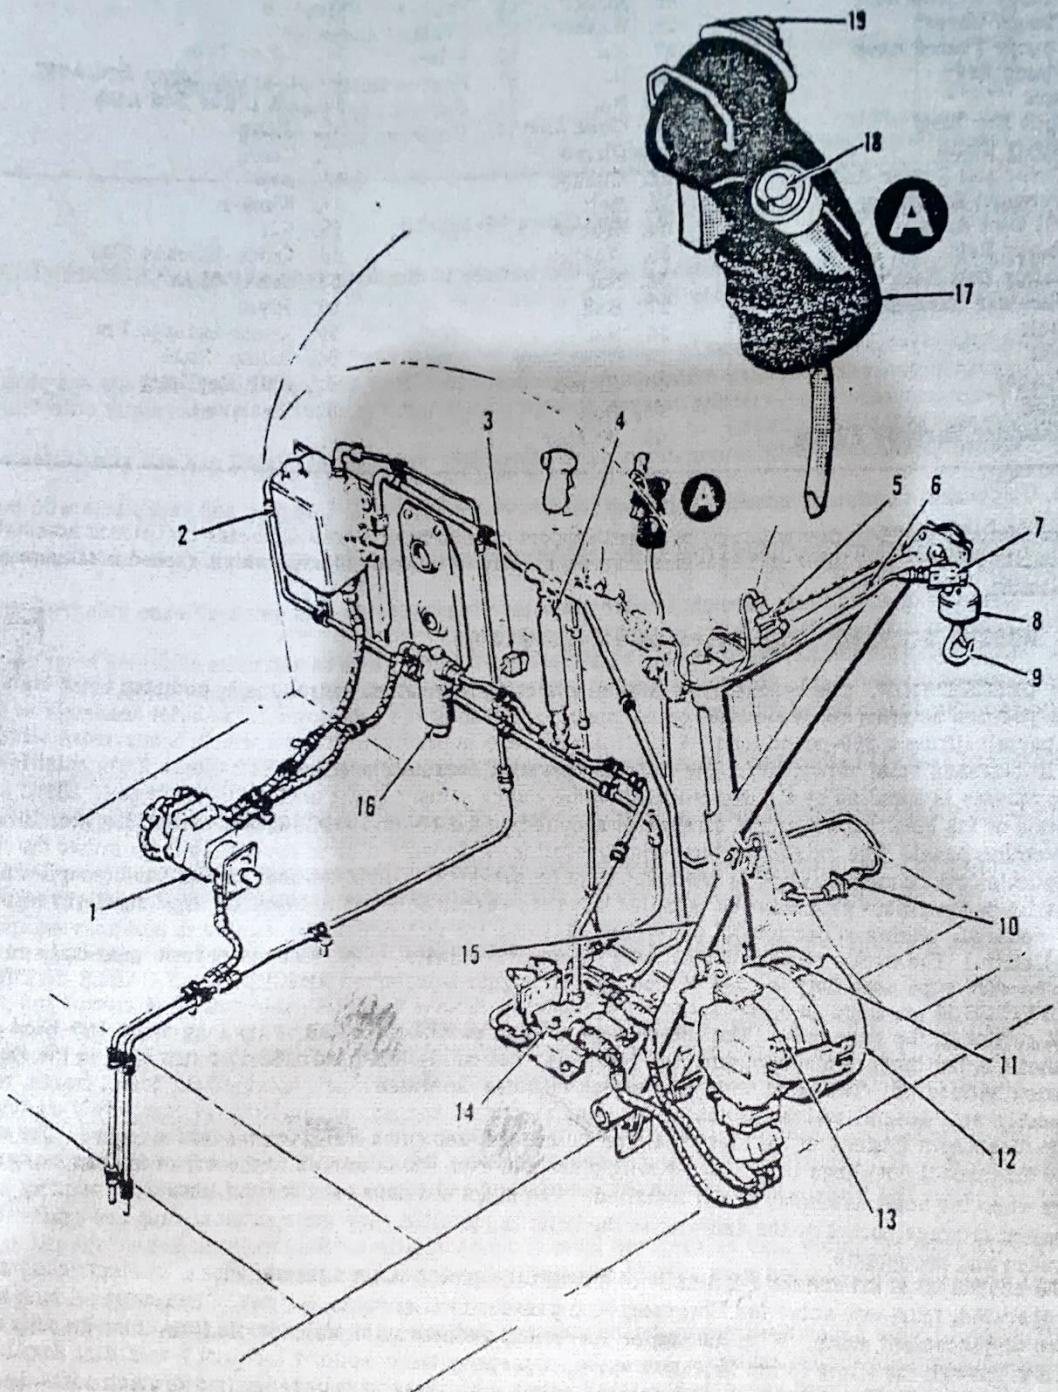

Figure 96-301-1. Rescue Hoist Installation
96-301-1. RESCUE HOIST KIT. (See figures 96-301-1 and 10-6.)
INDEX FOR FIGURE 96-301-1
96-301-10. REMOVAL OF RESCUE HOIST KIT. (See figure 96-301-1.)
96-301-11. INSTALLATION OF RESCUE HOIST. (See figure 96-301-1.) Installation of rescue hoist kit components and hydraulic units is essentially the reverse of removal. The following additional checks should be made before the installation is complete:
a. Upon installing and connecting the hoist assembly, check hose assembly inlets and outlets for interconnections to the correct ports. (See figure 96-301-1.)
e. Check hydraulic fluid level in oil tank and add oil if necessary. (See figure 96-301-1.)